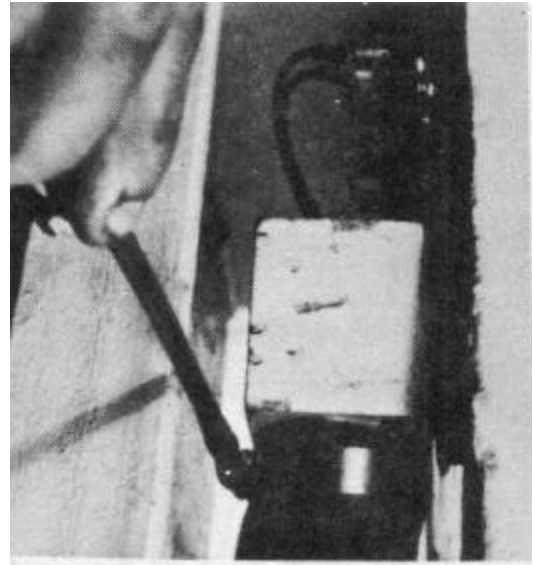

Figure 5-131
3. Remove the suction hose clamp from the outlet elbow (Fig. 5-131).
13. Install the outlet elbow and suction hose (Fig. 5-131 and 5-132). Use of teflon sealing tape is recommended for the baffle threads.